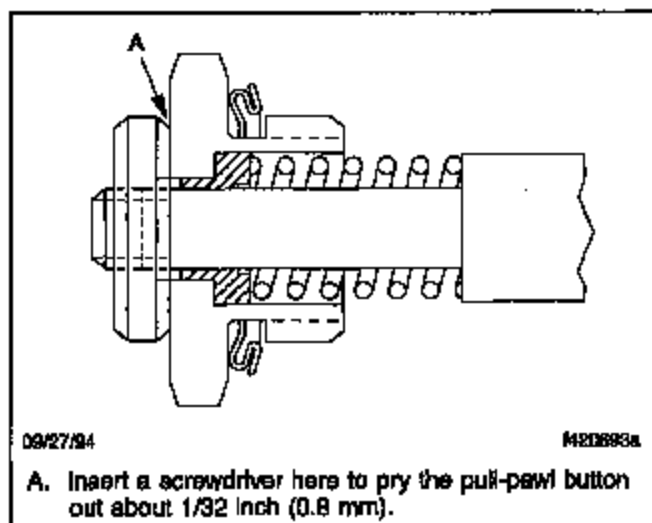

Fig. 1, Pull-Pawl Assembly
2. Using a screwdriver or an equivalent tool, pry the pawl button out about 1/32 inch (0.8 mm). See Fig. 1. Wedge the tool in place. Pull-pawls are spring-loaded; when the tool is removed, the pull-pawl will engage the teeth automatically.